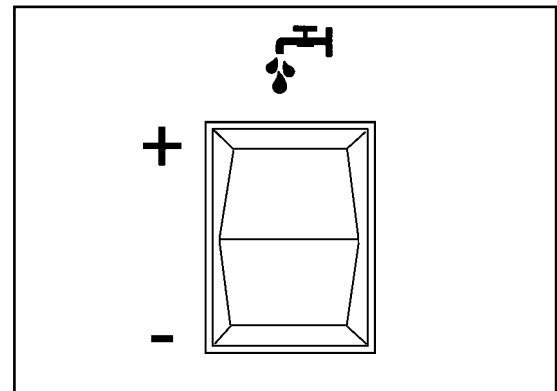
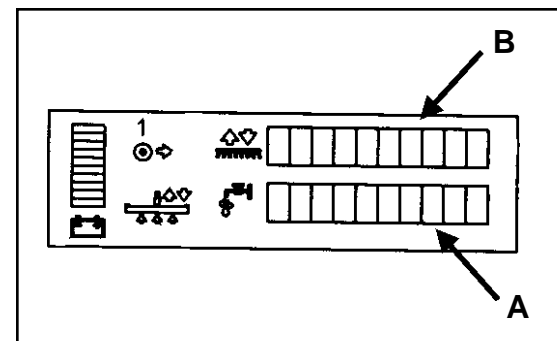
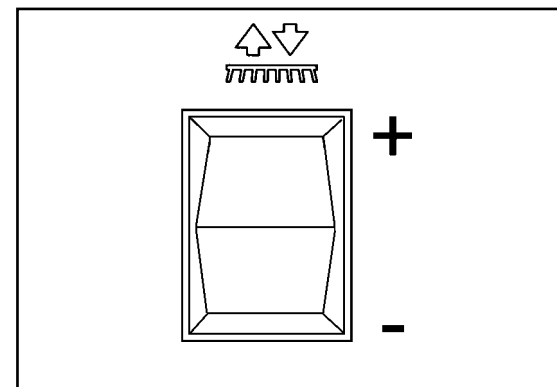

Figure 25
Figure 26
Figure 27
The solution is used to loosen and remove dirt from the floor. The amount of solution applied can be adjusted to five different levels to accommodate many different floor conditions. These different levels are shown on the LCD display on the front of the machine. To adjust the amount of solution applied, use the Solution Flow Switch (figure 25). **NOTE: There are five different settings on the display. See figure 26, A.**
1. Press the "+" side of the switch (figure 25).
1. Press the "-" side of the switch (figure 25).
The brushes are used to supply agitation for the solution, which improves the cleaning process. The amount of brush pressure applied can be adjusted to five different levels to accommodate many different floor conditions. These different levels are shown on the LCD display on the front of the machine (figure 26, B). To adjust the amount of brush pressure, use the brush up/down switch (figure 27).
1. Press the "+" side of the switch (figure 27).
1. Press the "-" side of the switch (figure 27).